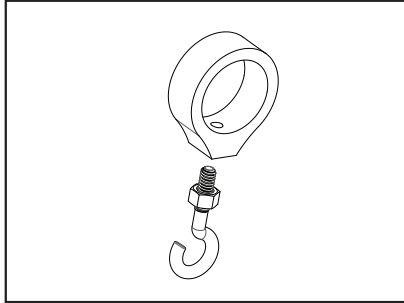

Figure 1
1. Remove the ball hook collar, ball hook, and 1/4-20 nut from the included hardware bag assembly. Thread the nut onto the ball hook, then thread the ball hook into the ball hook collar. Do not tighten yet. (Figure 1)